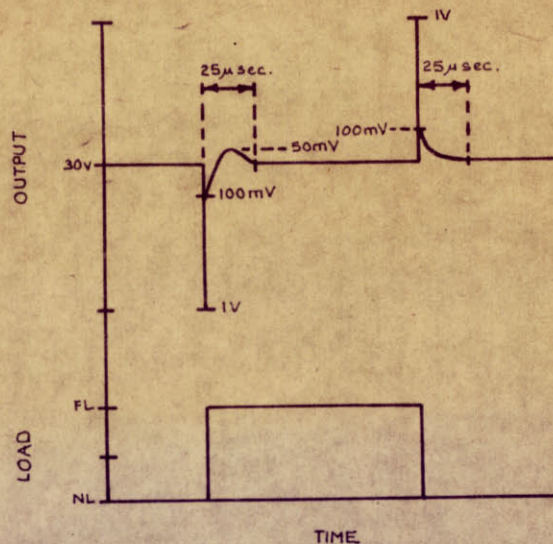

Fig 3. Pulse Response
- (ii) Transient Response—The typical response to a pulsed load is shown in fig. 3. This is measured with appropriate O/P and F/B terminals linked at the terminals (see note on Remote Sensing).